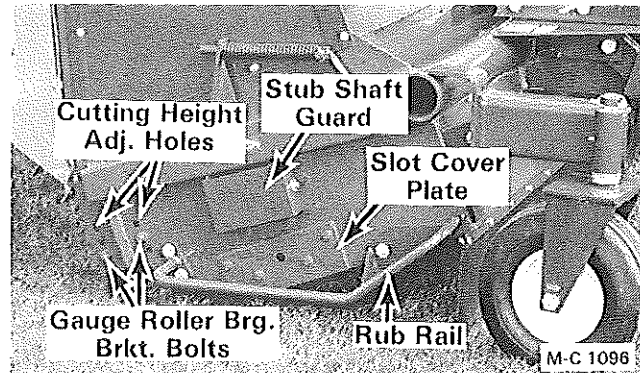

Figure 14
1. The cutting height is established by the caster wheels and the gauge roller. There are three bolt adjustments for the caster wheel brackets that correspond with three adjustments on the gauge roller, see Figure 14.